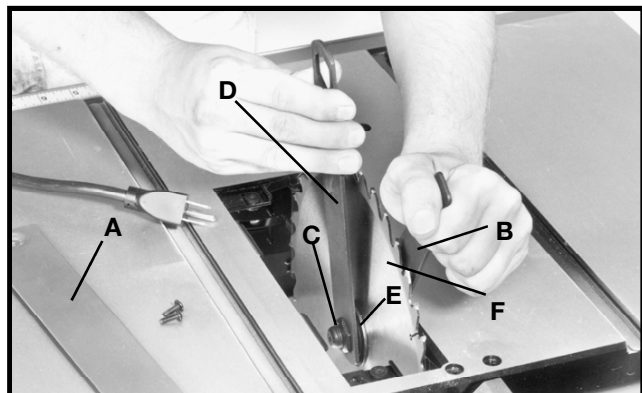

Fig. 44
1. Raise the saw blade to its maximum height and remove the table insert (A) Fig. 44.
2. Using the open end wrench (B) Fig. 44, place open end of wrench on flats on inside blade flange to keep the saw arbor from rotating and remove arbor nut (C) with wrench (D). Turn nut (C) counterclockwise to remove. Remove outside blade flange (E) and saw blade (F).
3. Assemble new blade, making certain teeth of blade are pointing down at the front of the saw table and assemble the outside blade flange (E) Fig. 44, and arbor nut (C). Tighten nut (C) with wrench (D) by turning nut clockwise while holding arbor steady with other wrench (B).